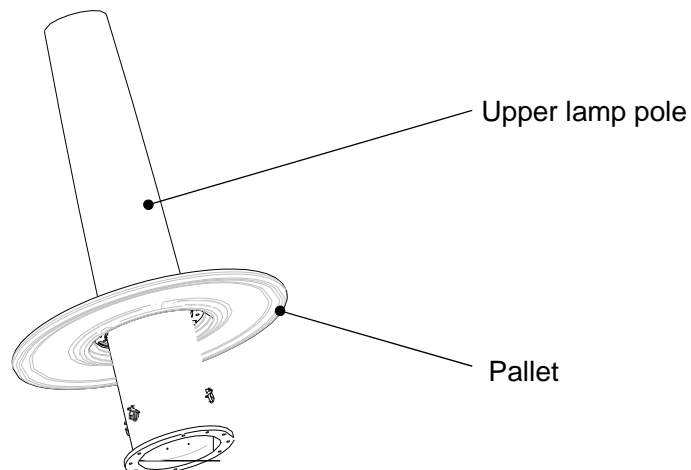

Figure 4
- ① Pallet goes through the top of the upper pole and move downward, as shown in Figure 4